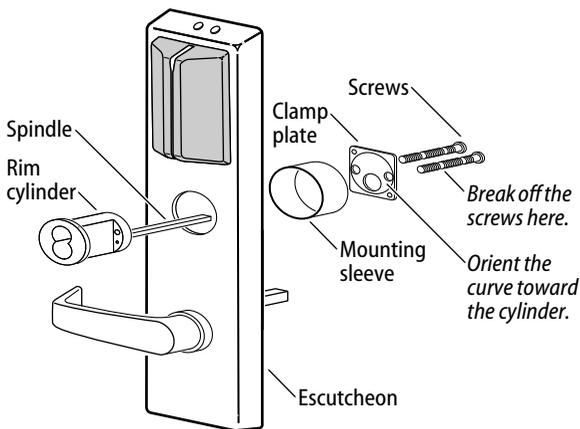

Figure 8 Installing the cylinder for Von Duprin rim and rod exit devices
- 1 To determine the correct spindle length, try the cylinder in the door while holding the escutcheon and lock stile case in place. Then break off the spindle at the groove where it will engage correctly with the latching mechanism. Break off the mounting screws as shown in Figure 8.
- 4 Orient the cylinder and clamp plate as shown in Figure 8. From the back of the escutcheon, secure the cylinder and mounting sleeve using the clamp plate and mounting screws.